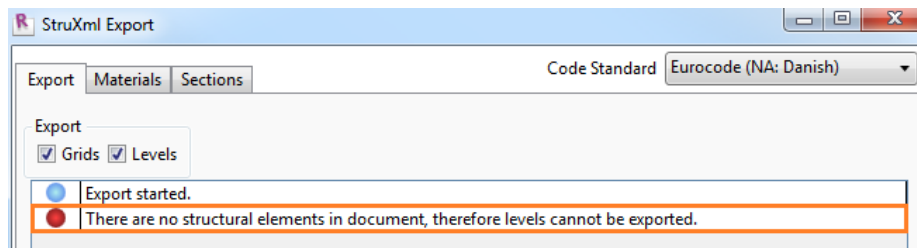

Figure 3-12
- *Levels* cannot be exported if no elements are created in the Revit model because size of a storey cannot be generated. A warning shown in Figure 3-12 will appear in that case.